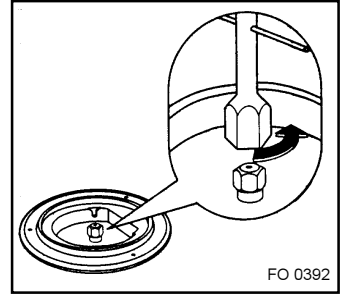

Fig. 8
- With a tubular spanner no. 7 unscrew and remove (fig. 8) the nozzles substituting them with those corresponding to the type of gas used (see table on page 18);